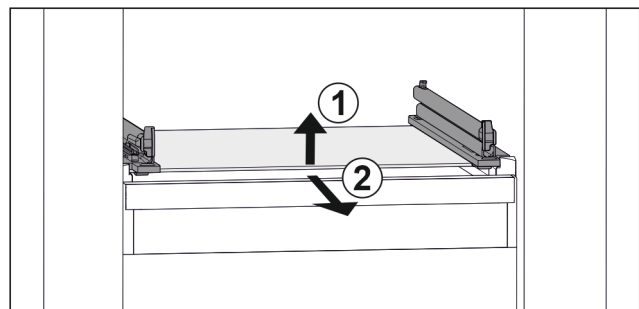

Fig. 101 Example illustration of glass shelf
- ▶ Lift glass shelf at the front. Fig. 101 (1)
- ▶ Remove glass shelf to the front. Fig. 101 (2)